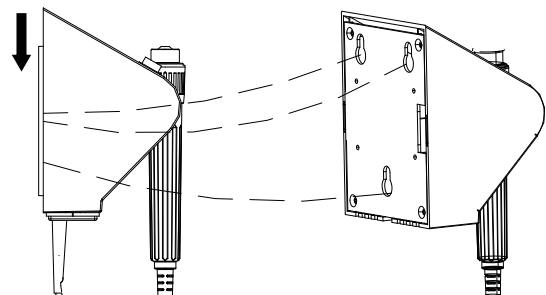

Fig.3
- 2.1.4 Mount the unit by fitting the round holes in the backplate over screw heads on the wall mounting plate, then push downward on the unit to secure it to the wall. See from Fig 3.